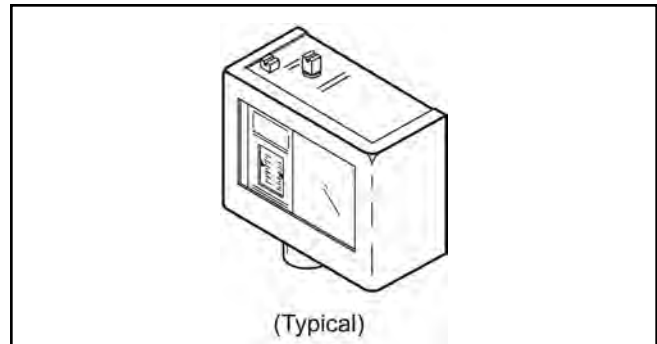

Figure 5-9
**DESCRIPTION** - See Figure 5-9. Low oil pressure switches are often times used to insure the oil pressure at the nozzle is adequate for proper atomization of the oil.